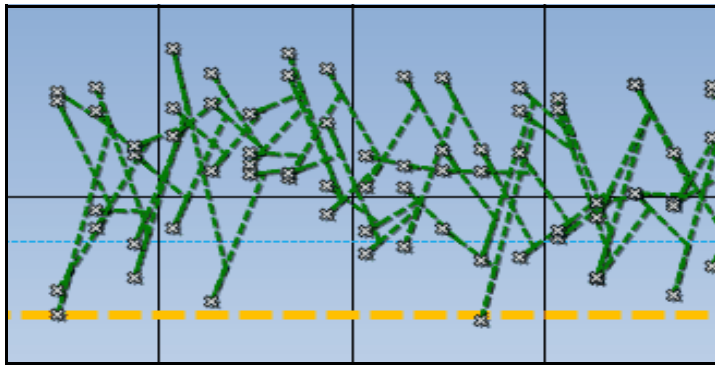

Figure 63: Graph without Markers
- Click on the Show Marker checkbox  to enable the chart to display the marker. A graph without markers appears similar to Figure 63 on the next page.